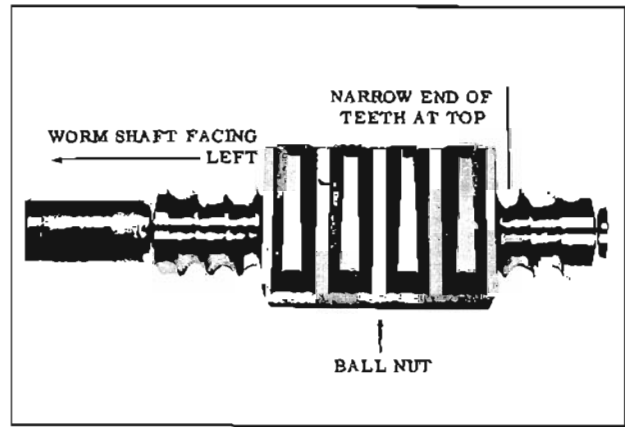

Fig. 8-17 Positioning Ball Nut
2. Slide ball nut over worm. (Fig. 8-17)